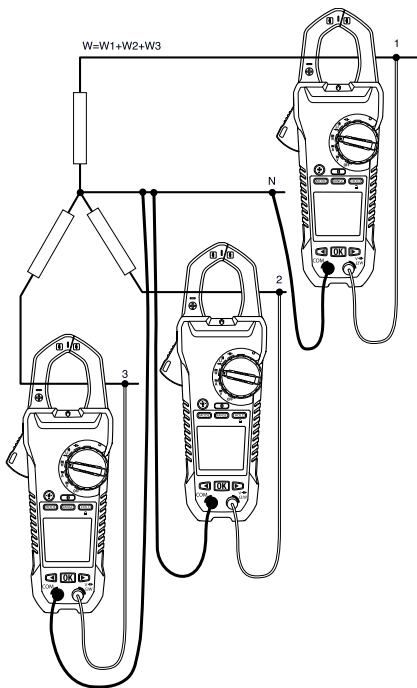

Figure 5.5 Three-phase four-wire measurement
The power of a three-phase four-wire configuration is measured in three steps, accordance with Figure 5.5. The total power is the sum of the three measurements: $W = W_1 + W_2 + W_3$.
3. Take three measurements of the active power, in accordance with Figure 5.5.